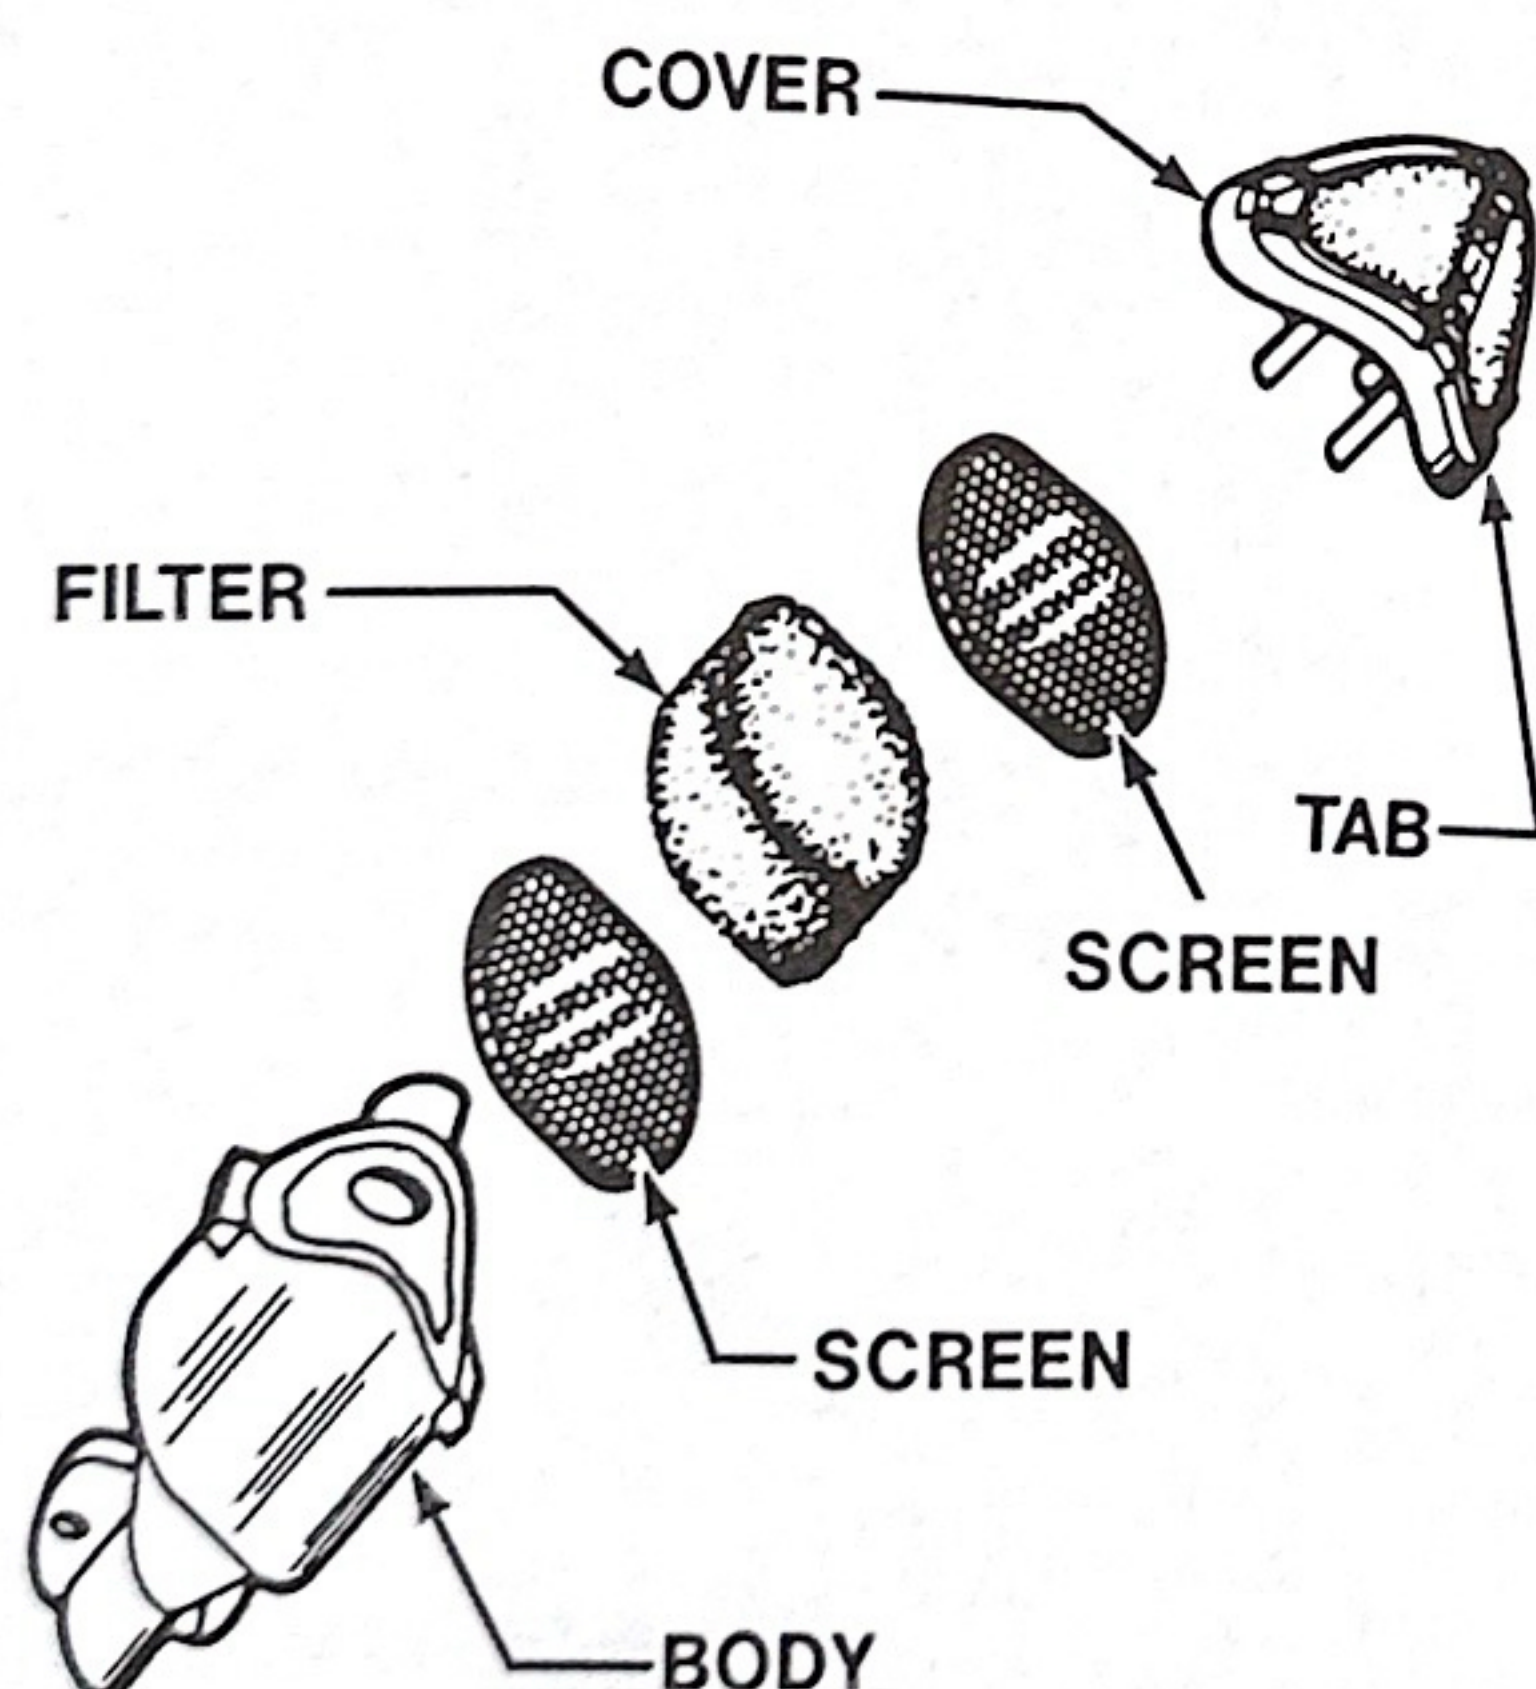

Figure 13. The Engine Air Filter Assembly
7. Reassemble the filter assembly as shown in Figure 13. Inspect the different parts carefully for signs of deterioration or damage.